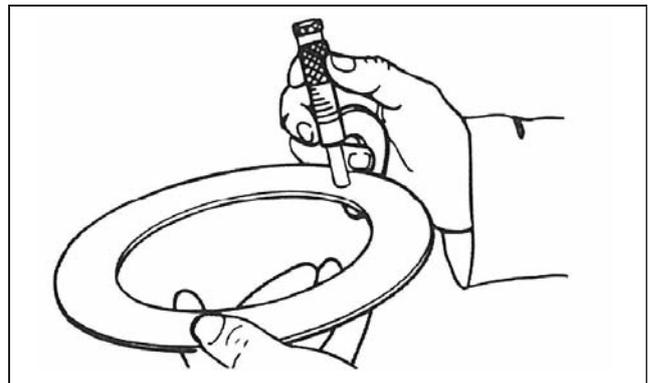

Fig. 2.42
1. Use a micrometer or a gauge to measure the thickness of the shim pack that you removed from under the inner bearing cup. Record the measurement. - Fig. 2.42